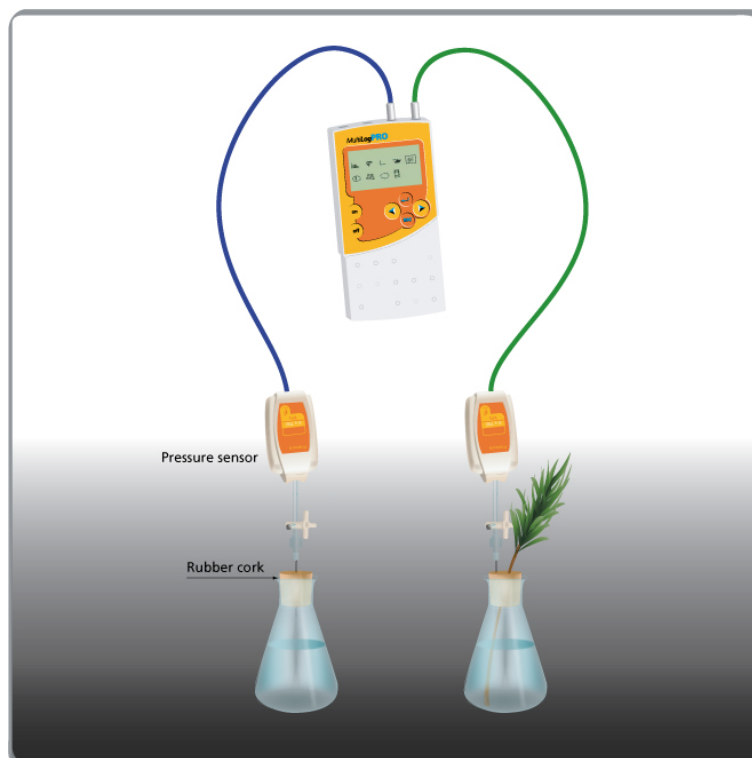

Figure 3
4. Assemble the equipment as illustrated in figure 3